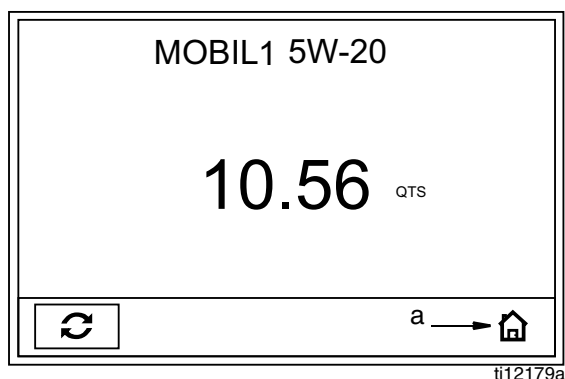

FIG. 9
2. When an operation mode screen displays (such as the one shown in FIG. 9):